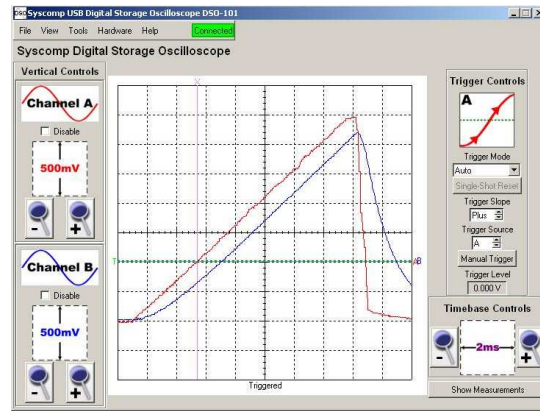

Figure 5: Response of RC Lowpass filter to Ramp Input
- Figure 5 shows the response of a network to a ramp input signal. The ramp function requires a three part waveform: ramp, reset and quiescent period [6]. The student or lab instructor can create the waveform using the open-source *Wavemaker* software [7].